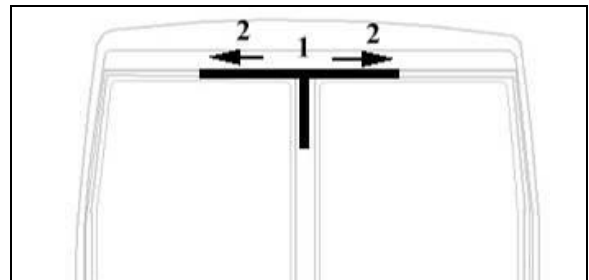

FIGURE 59
1. Begin installation of the rubber extrusion at the upper center (item 1, Figure 59). Make sure it is centered in relation to the vertical member.
2. Insert the rubber extrusion at the location identified #2 (Figure 59).